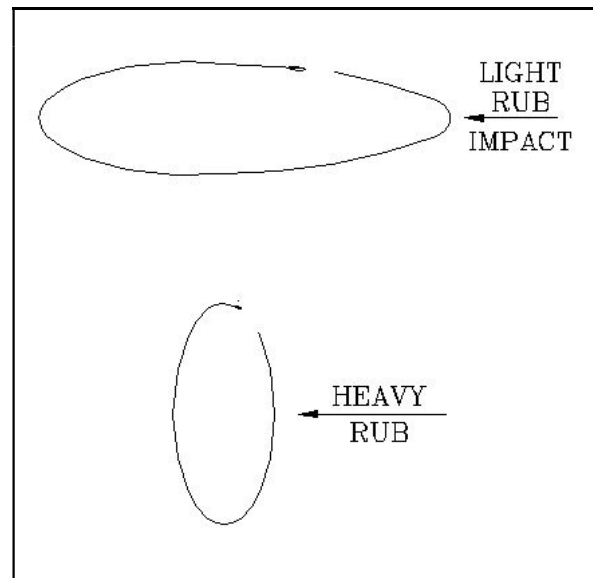

Fig. 9.2
7. As the brass screw touches the shaft the orbit will be distorted by the rub, as depicted in Figure 9.2. A light rub will cause the orbit to take on an elongated shape as the shaft bounces away from the point of contact, while a heavier rub will simulate a preload upon the shaft and will flatten the orbit into an oval or a banana shape with even heavier preload.